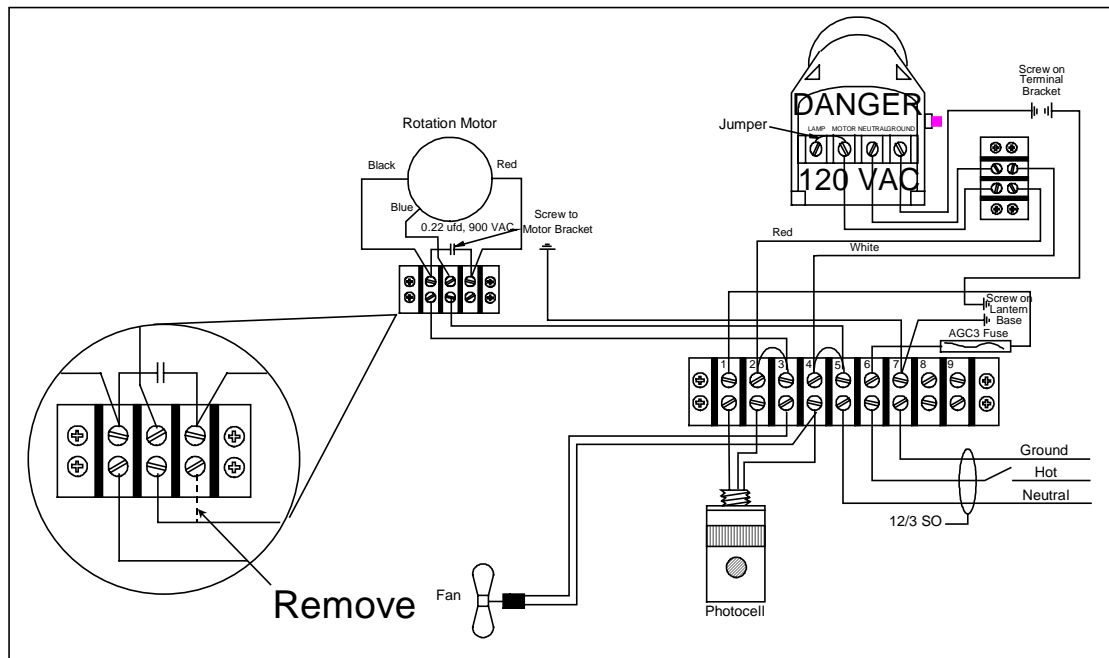

Figure 3-3 (without heat switch)
7. Figure 3-3, cross out the jumper on the small terminal strip connected to the rotation motor, and add the notation “(without heat switch)”, as shown below:
7. Figure 3-3, cross out the jumper on the small terminal strip connected to the rotation motor, as shown below: